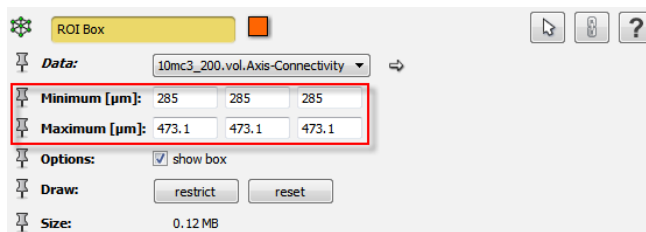

Figure 12.15: Modified parameters of the *Display > ROI Box* module are highlighted by the red rectangle.
- Set the three editable fields of the *Minimum* port of this new module to 285 and the three editable fields of the *Maximum* port to 473.1. See Figure 12.15.